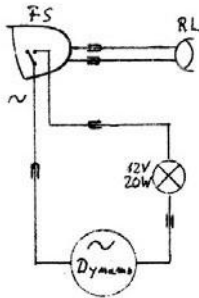

Figure 2
Figure 2 shows the common wiring when the dynamo is mounted on the front wheel. Usually the front headlights (FS) have an AC connection marked ~ for the dynamo and two separate connection contacts for the rear light (RL)